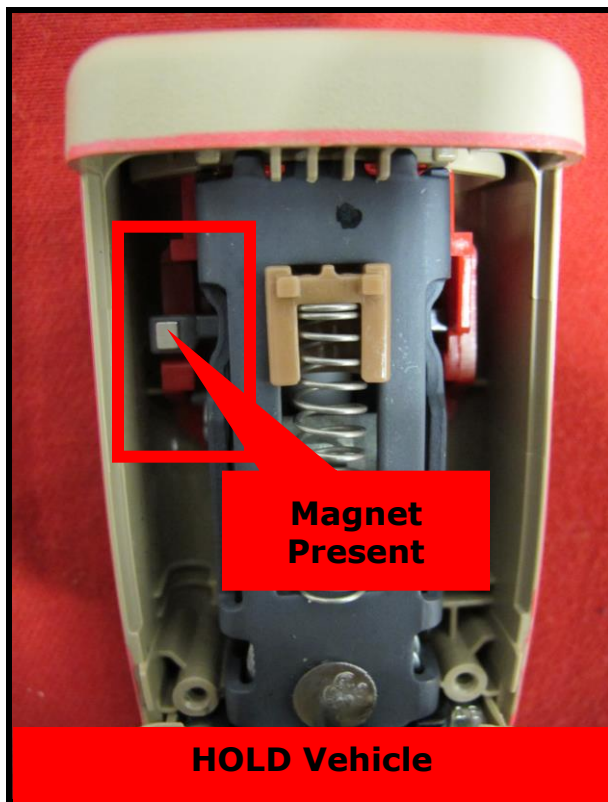

Figure 5
- 5. Inspect the buckle latch mechanism for presence of a magnet. See Figures 5 and 6 below.
8. If a magnet **IS** present in either front seat belt buckle mechanism as shown in Figure 5, then: